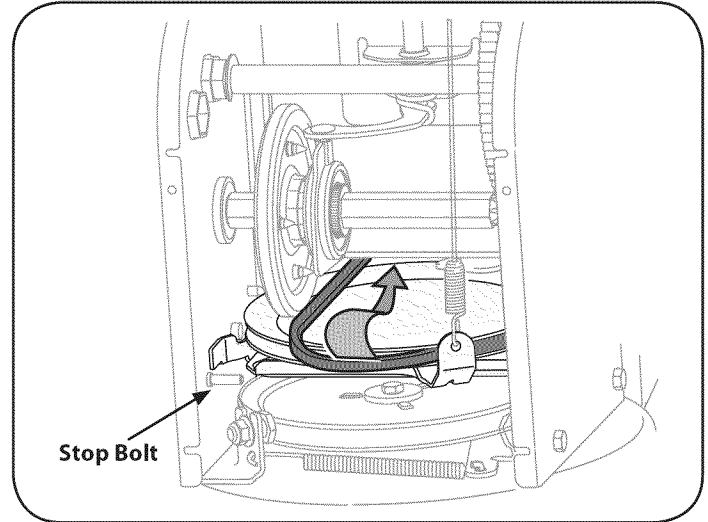

Figure 30
6. Back out the stop bolt to increase the clearance between the friction wheel disc and friction wheel. See Figure 30.
7. Slip the drive belt off the pulley and between friction wheel and friction wheel disc. See Figure 30.